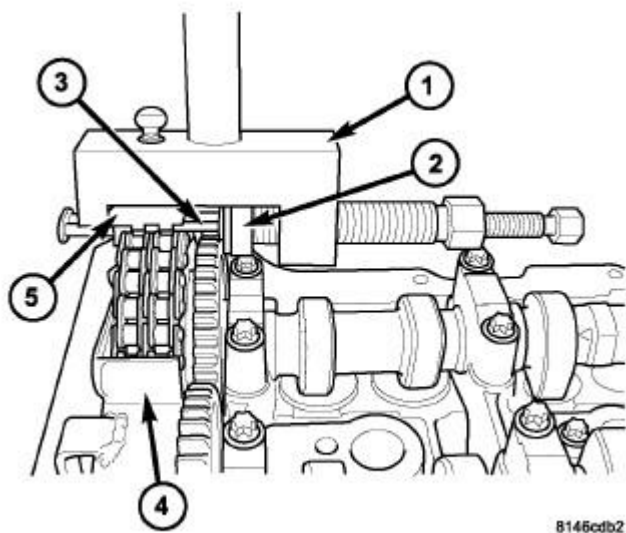

Fig. 300: LINK INSTALLER
5. Install the new chain center link plate. Insert the guide link into the new center plate. See **Fig. 300** .